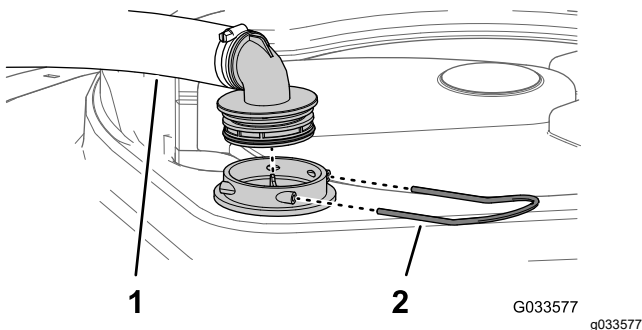

Figure 88
- At the top of the sprayer tank, remove the retainer that secures the hose fitting attached to the large hose from the filter housing (Figure 88).
- Remove the hose and hose fitting from the filter housing (Figure 88).